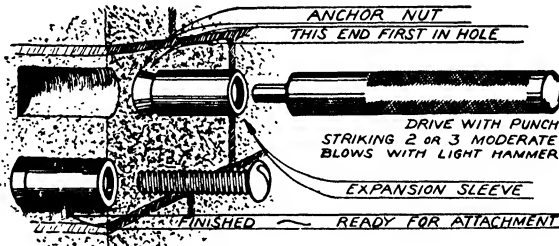

Fig. 50. Method of Setting A-J Anchors
**Screw-Anchors or Expansion-Shells.** These are made in various types, Fig. 49 showing the Rawl anchor and caulking tool and Fig. 50 showing the Ackerman-Johnson expansion shell. To install, drill a hole the proper diameter and depth, insert the anchor or shell, and expand it by using a tool provided for this purpose and a hammer.